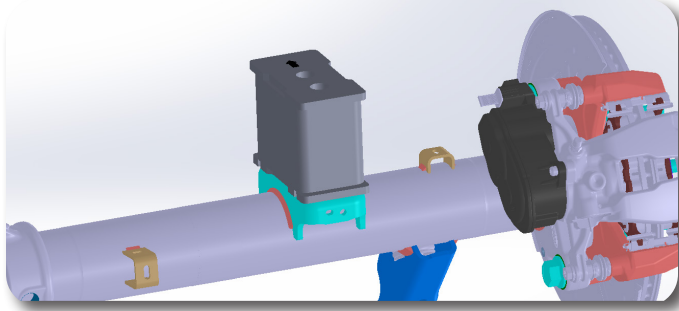

Figure 6
8. The fabricated rear blocks are designed to offset the axle forward slightly. Install the block as shown in the figure with the arrow on top facing the front of the vehicle, align the center pins and raise axle. **Figure 6**